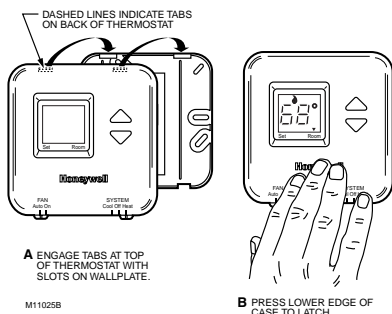

Fig. 9. Mounting thermostat to wallplate. T8400C shown here.
2. Swing down the thermostat and press the lower edge of the thermostat onto the wallplate to latch. See Fig. 9.